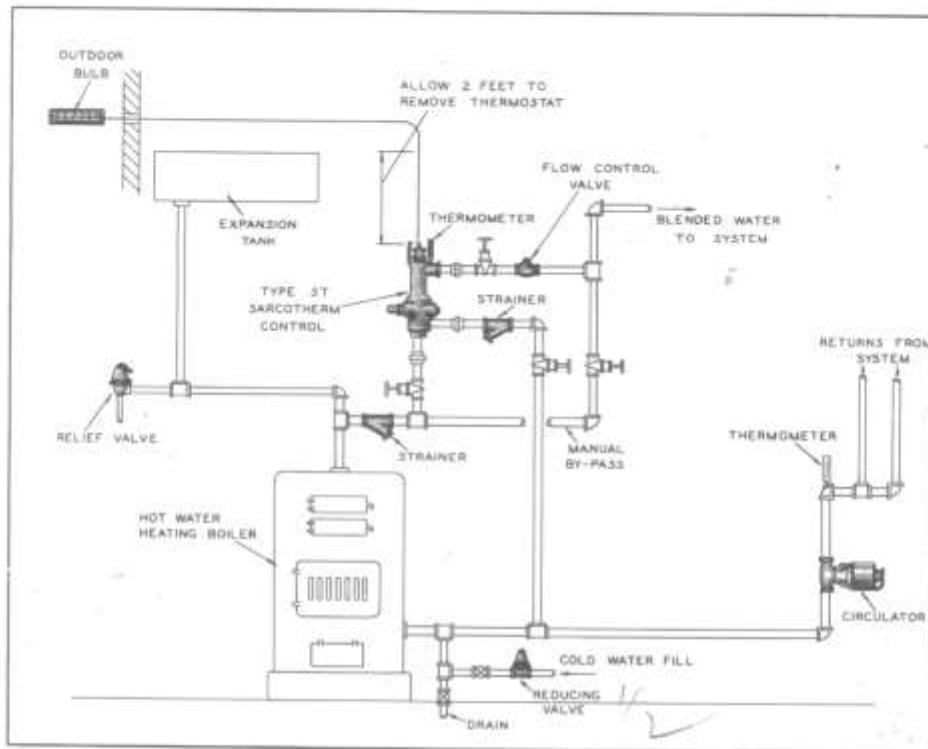

Fig. 4. Typical Installation of Sarcotherm, Type ST
a. When connecting the Sarcotherm blender control valve "W" to the boiler, follow as closely as possible the arrangement shown in Fig. 3. In laying out the piping, sufficient room must be allowed between the top of the Sarcotherm valve and the ceiling to allow for the removal of the blender thermostat when necessary. This clearance should be not less than 2 feet, as indicated in the typical layout drawing, Fig. 3. If the ceiling is too low to allow this clearance with the hook-up as shown in Fig. 3, the Sarcotherm control valve may be connected in the manner shown in Fig. 4. When the
hook-up is made in accordance with Fig. 4, however, an automatic air eliminator of the Sarco 13-W type must be installed to eliminate the air from the loop, otherwise air will accumulate at this point and retard the circulation throughout the system.